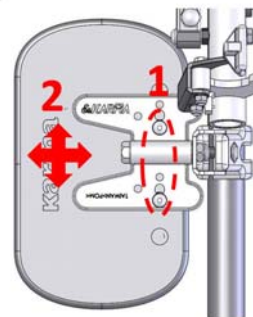

Figure 5-20
5.3.1.4.7 Use the #3 Allen Key Wrench to remove the screws behind the calf support. Adjust the calf support to accommodate the user's leg position and flexibility. (Figure 5-20) Re-tighten the screws.